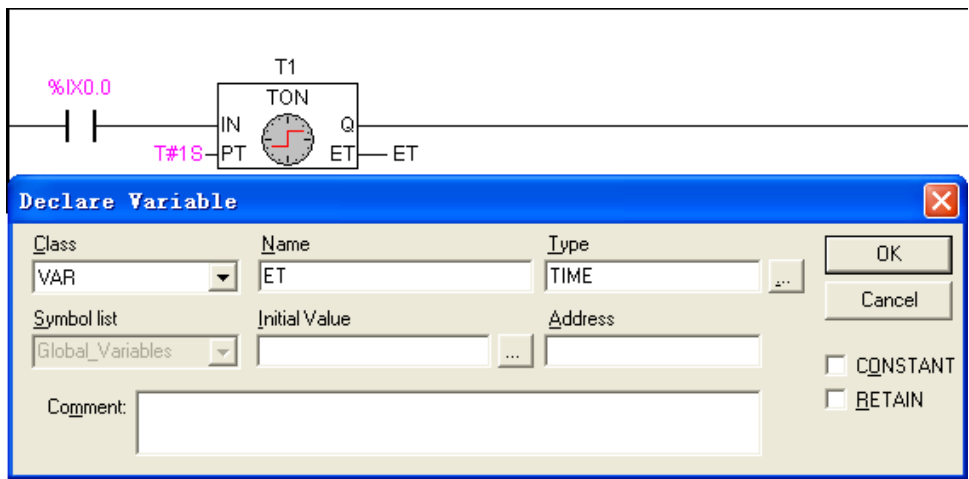

Figure 3-6-6 Programming Step (6)
- A power delay timer “TON” named T1 has been added to the Ladder Diagram. Enter “T#1S” in the field “???” to indicate 1s delay. Enter time variable “ET” in the field “ET”, shown in figure 3-6-6. Then click “ok”.